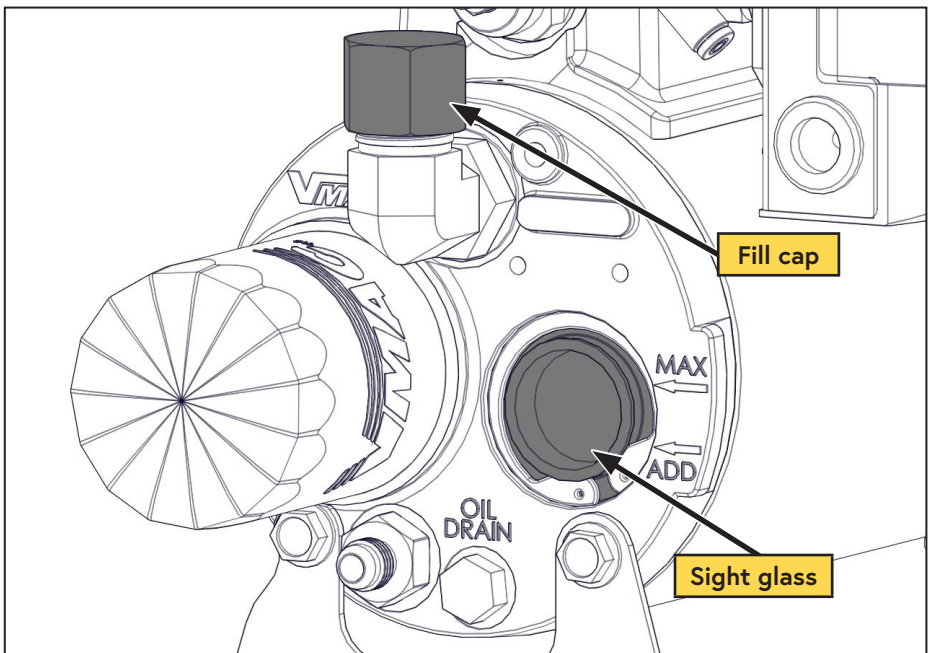

Figure 23 — Filling the WHASP Tank
- Remove the fill cap on the WHASP Tank (above the sight glass) (Figure 23).
- Using a funnel, pour oil into the tank until the oil level in the sight glass reaches the "MAX" line. **The system capacity is 4 L** (Figure 23).